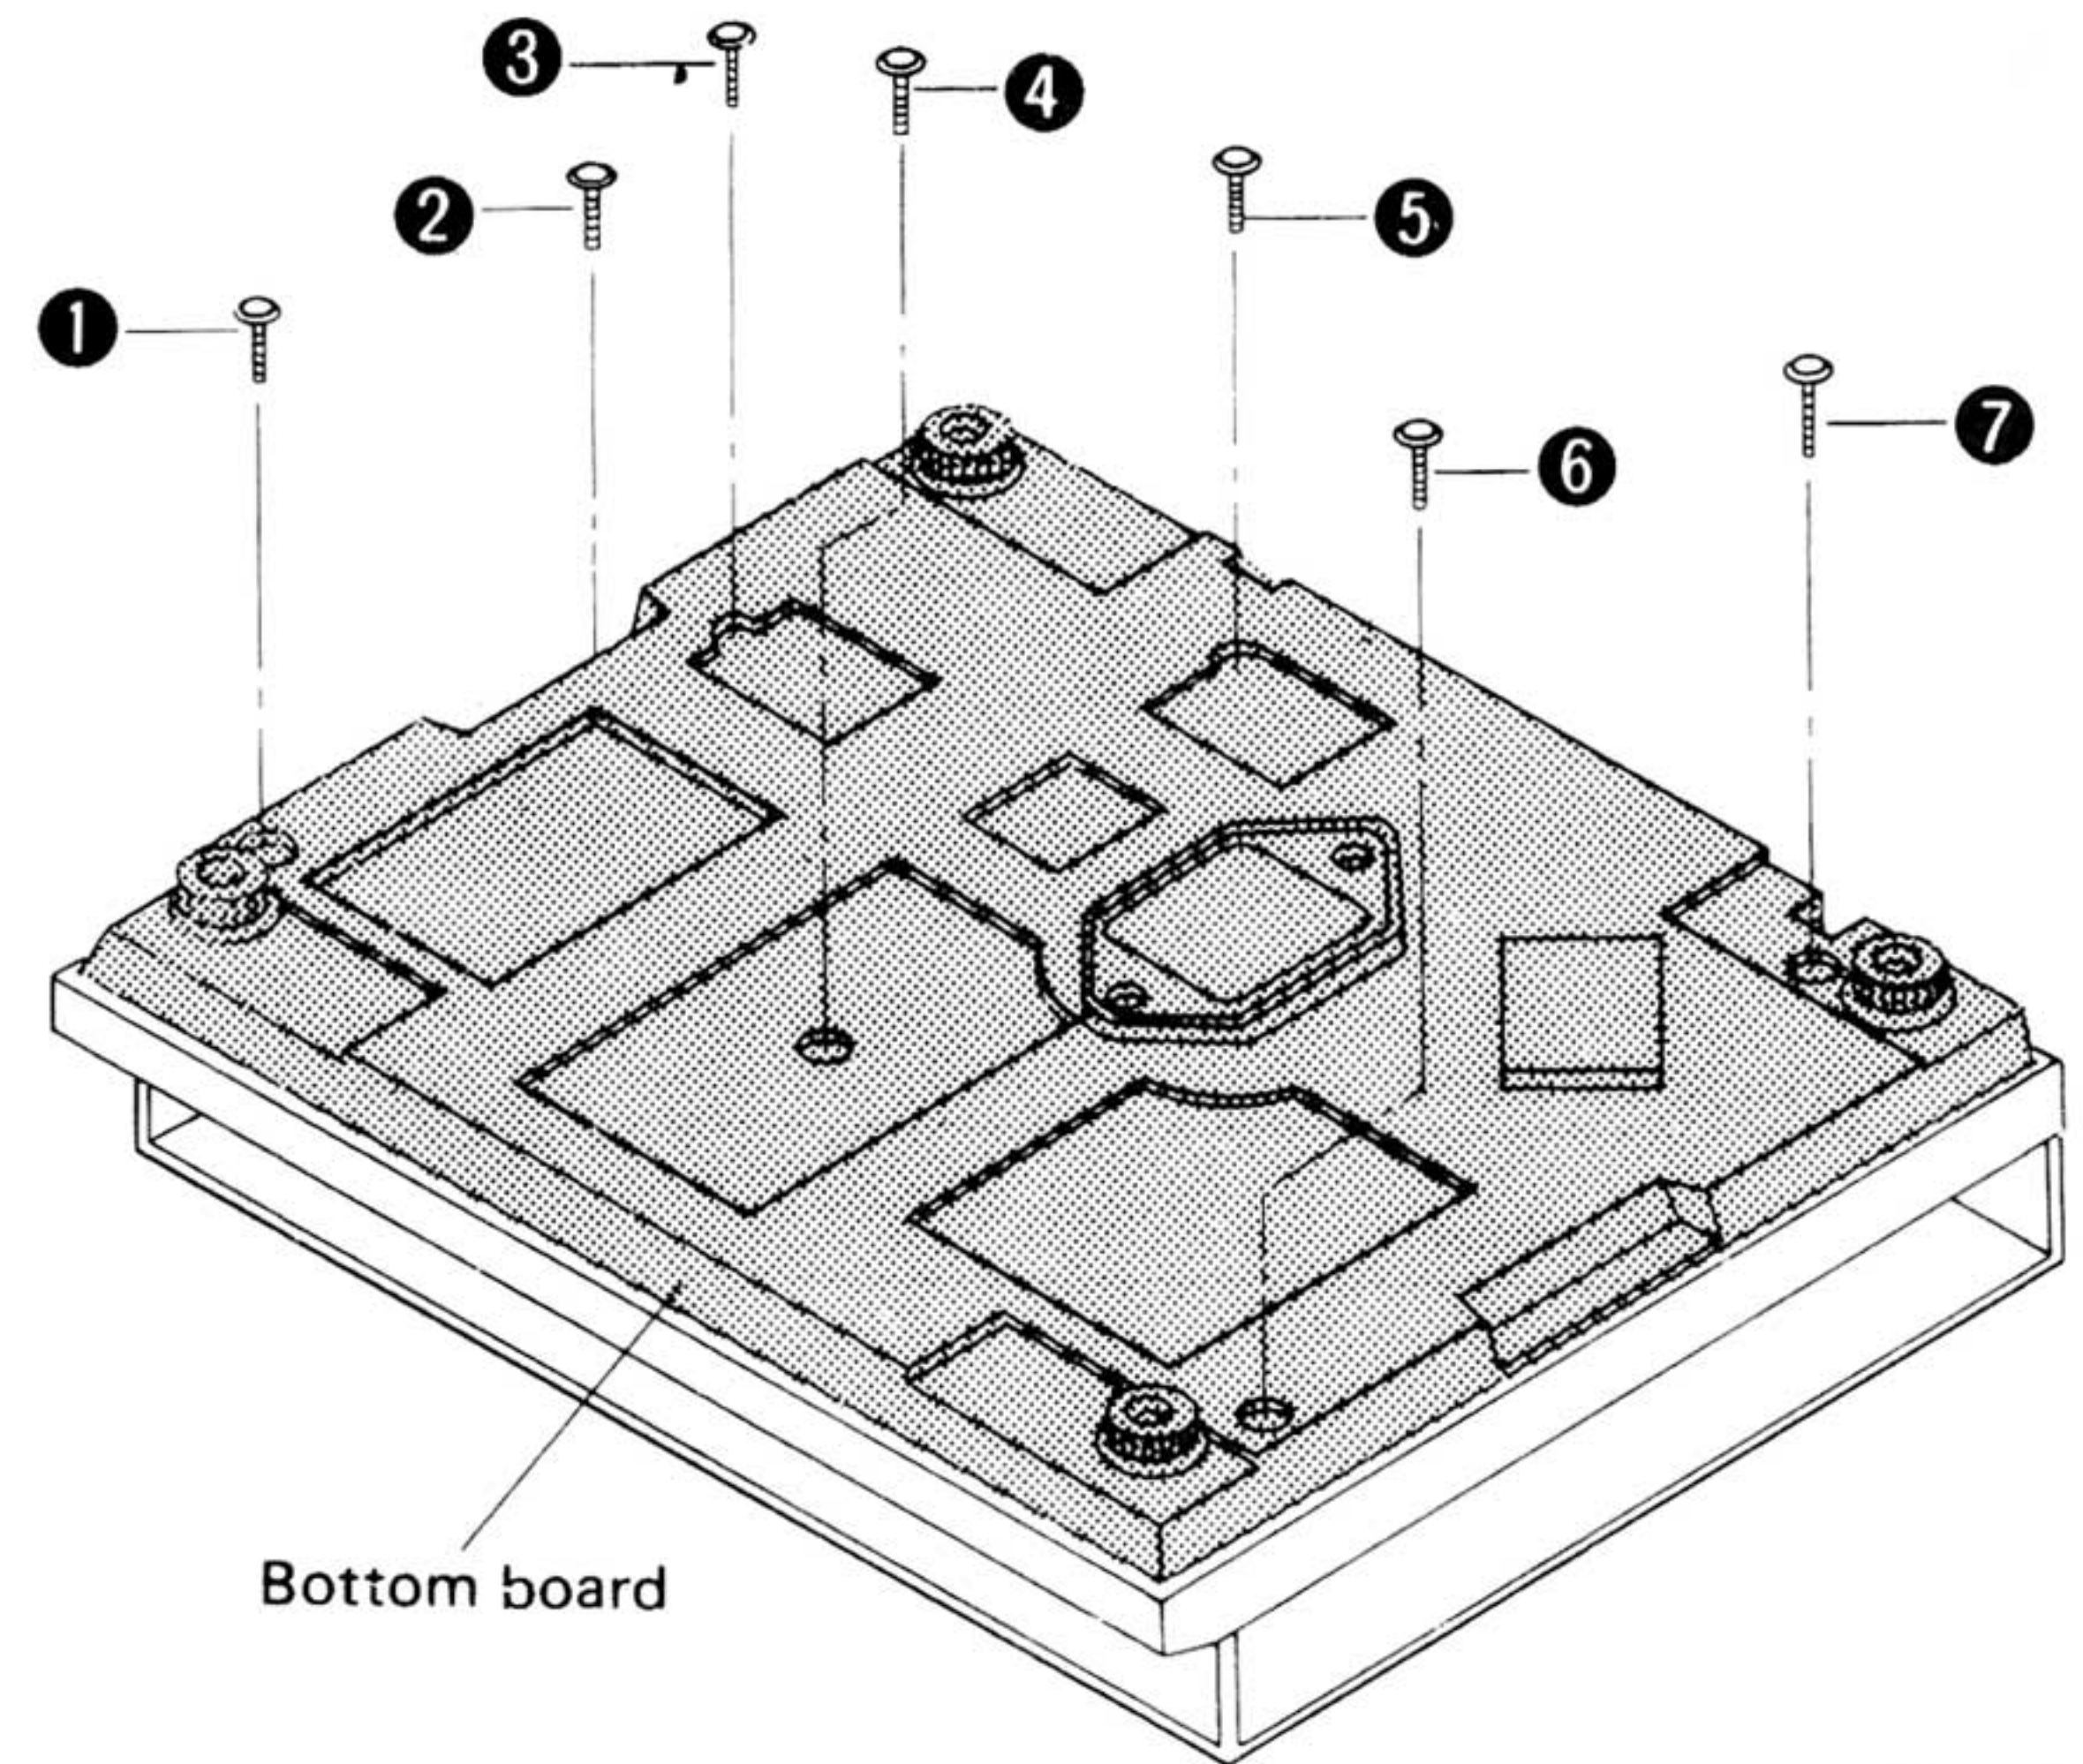

Fig. 1
4. Remove the bottom board setscrews ① ~ ⑦. Then, the bottom board can be removed. (See Fig. 1)